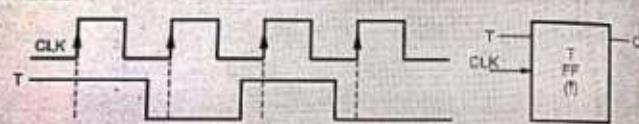

Fig. 5.4.28
**Example 5.4.4** Refer Fig. 5.4.28 and determine the Q output waveform if the flip-flop starts out RESET.